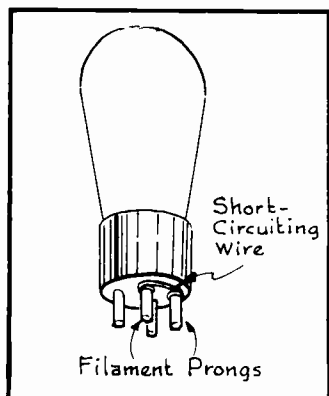

Fig. 2
8. - WHEN NEUTRALIZING THE R.F. STAGES OF A RECEIVER IN WHICH THE FILAMENTS OF THE VARIOUS R.F. TUBES ARE CONNECTED IN SERIES INSTEAD OF PARALLEL, THEN THE FILAMENT OF THE TUBE BEING NEUTRALIZED CAN BE PREVENTED FROM BURNING BY SHORTING ITS FILAMENT PRONGS CLOSE TO THE TUBE BASE BY MEANS OF A FAIRLY THIN PIECE OF WIRE AS SHOWN IN FIG.2. THIS WILL STILL PERMIT THE TUBE TO BE INSERTED INTO ITS SOCKET, AT THE SAME TIME PUTTING THE FILAMENT OUT OF COMMISSION.